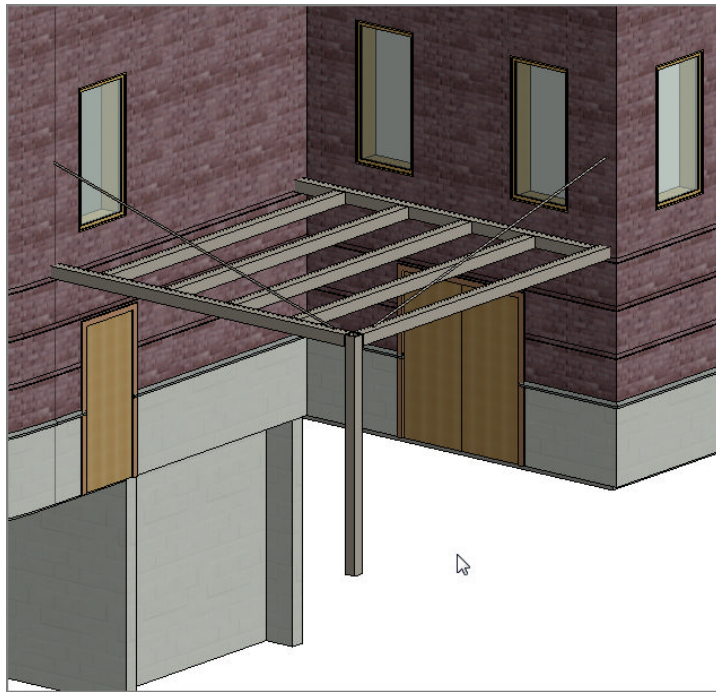

FIGURE 8.49: Isometric of the bracing
20. Compare Figure 8.49 to your rods.